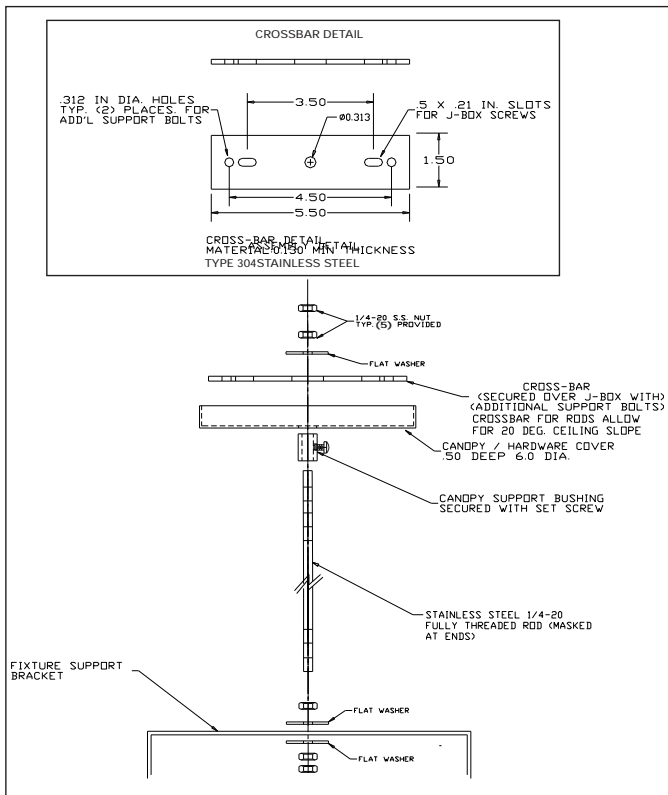

Figure 2 RCH-3
For A Rod RCH-3 (See fig. 2.)
11. With the stems and/or rods passing through the housing support bracket, thread on the remaining hardware consisting of a washer and two (2) nuts. (See fig. 2)